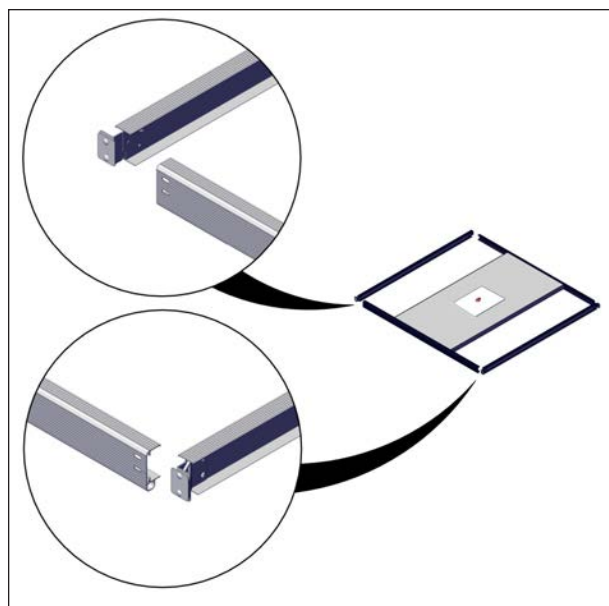
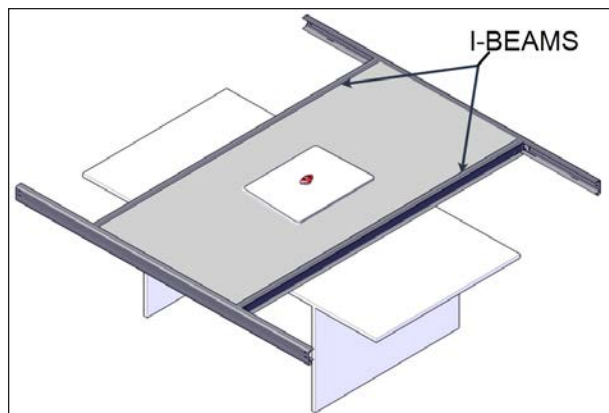
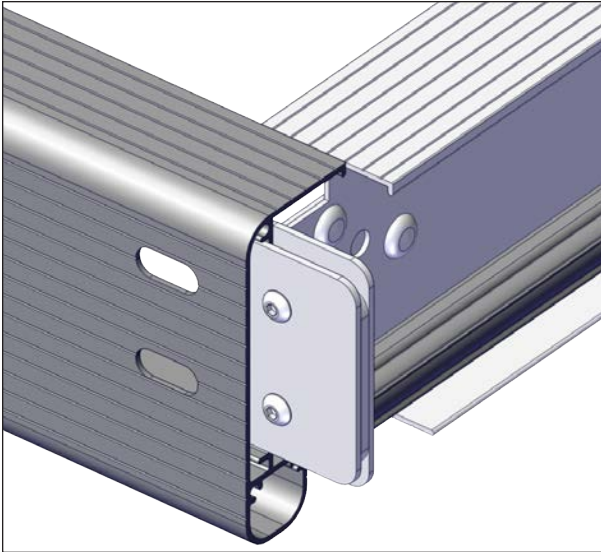

FIGURE 24: I-BEAM INSTALLATION
FIGURE 25: I-BEAM FINAL POSITIONS
FIGURE 26: C-CHANNELS / I-BEAM INSTALLATION
6. Slide one I-beam with short I to C connection plates in the C-channels on both sides of the middle panel, see Figure 24 and Figure 25. Install the I-beams so that the bent portion of the I to C connection plate is pointing outwards, see Figure 26.